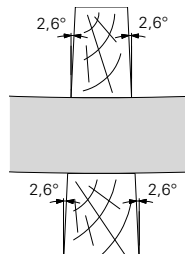

Fig. A16.01
- In order that the effectiveness of the Alignment Coupler BFD (20) is not affected, the panels may deviate from the centre by a maximum of 2.6°.
- (Fig. A16.01)
- Filler timber width of the inner compensation (50) = min. 4 cm.
- Filler timber width of the outer compensation (50) = min. 10 cm.